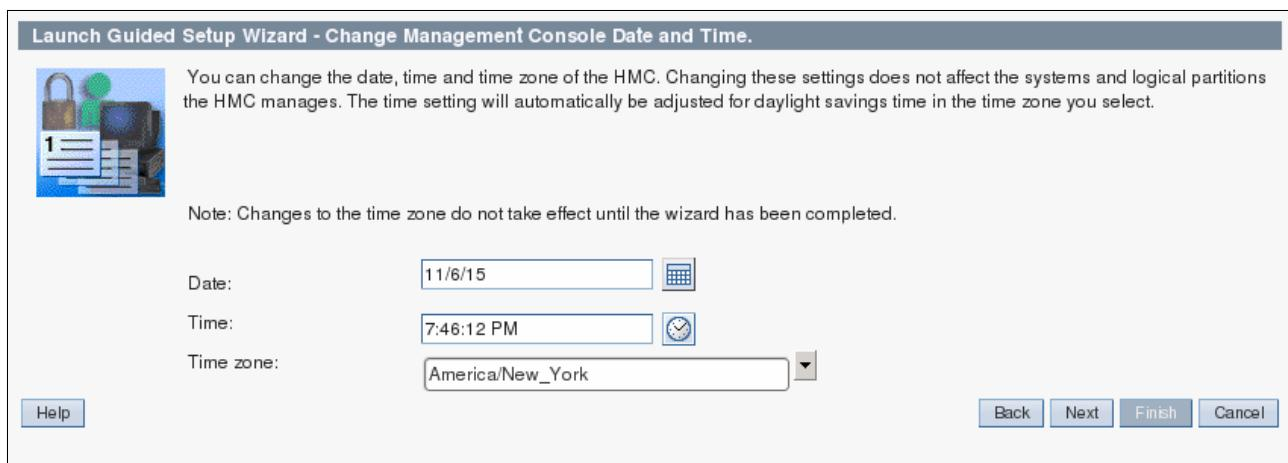

Figure 3-81 Change the date and time
10. Change the date, time, and time zone, if necessary, and click **Finish** (Figure 3-81).